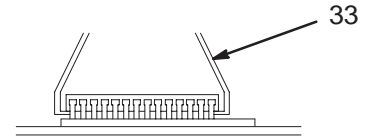

Fig. 46
3. Locate the software chips U6 and U7 on the control board (32). Note the direction of the chips.
4. Use an I.C. extraction tool (33) to remove the old software chips. Pull the chips directly up. See Fig. 46.